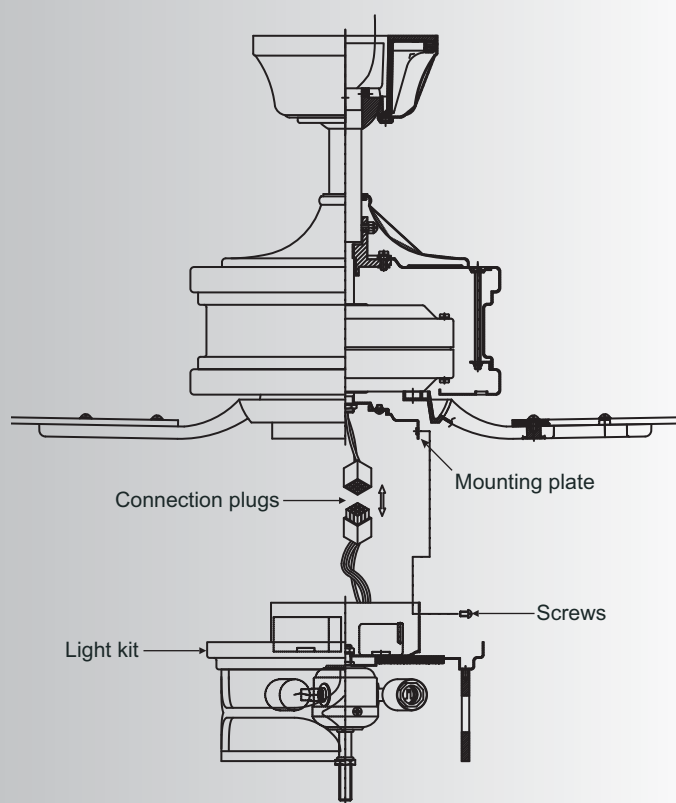

Fig. 19
Step 2. Raise and hold the light kit assembly close to the mounting plate. Push the nine pin square wire connectors together. One from the fan and one from the light kit assembly. (Fig. 19)
Step 3. Tuck the connections neatly into the switch housing and attach the light kit assembly to the ceiling fan. Place the key hole slots on the top edge of the switch housing over the mounting screw heads on the mounting plate. Turn the switch housing until the screw heads are at the narrow end of the key hole slots. (Fig.19)